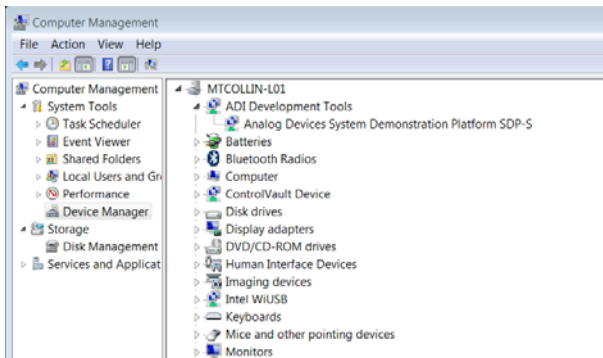

Figure 13. Device Manager: Checking that the Board Is Connected to the PC Correctly
- c. The **Computer Management** box appears. Click **Device Manager** from the list of **System Tools** (see Figure 13).